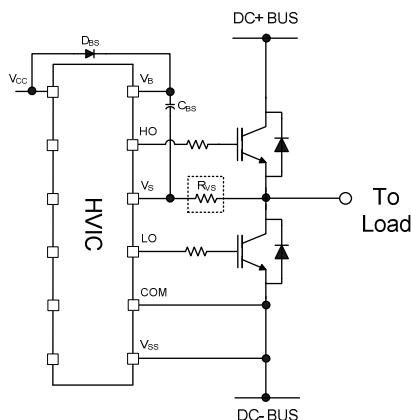
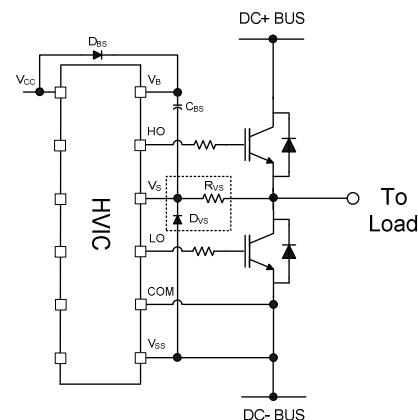

Figure 22:  $V_S$  resistor
Figure 23:  $V_S$  clamping diode
**Routing and Placement:** Power stage PCB parasitic elements can contribute to large negative voltage transients at the switch node; it is recommended to limit the phase voltage negative transients. In order to avoid such conditions, it is recommended to 1) minimize the high-side emitter to low-side collector distance, and 2) minimize the low-side emitter to negative bus rail stray inductance. However, where negative  $V_S$  spikes remain excessive, further steps may be taken to reduce the spike. This includes placing a resistor (5  $\Omega$  or less) between the  $V_S$  pin and the switch node (see Figure 22), and in some cases using a clamping diode between COM and  $V_S$  (see Figure 23). See DT04-4 at [www.irf.com](http://www.irf.com) for more detailed information.